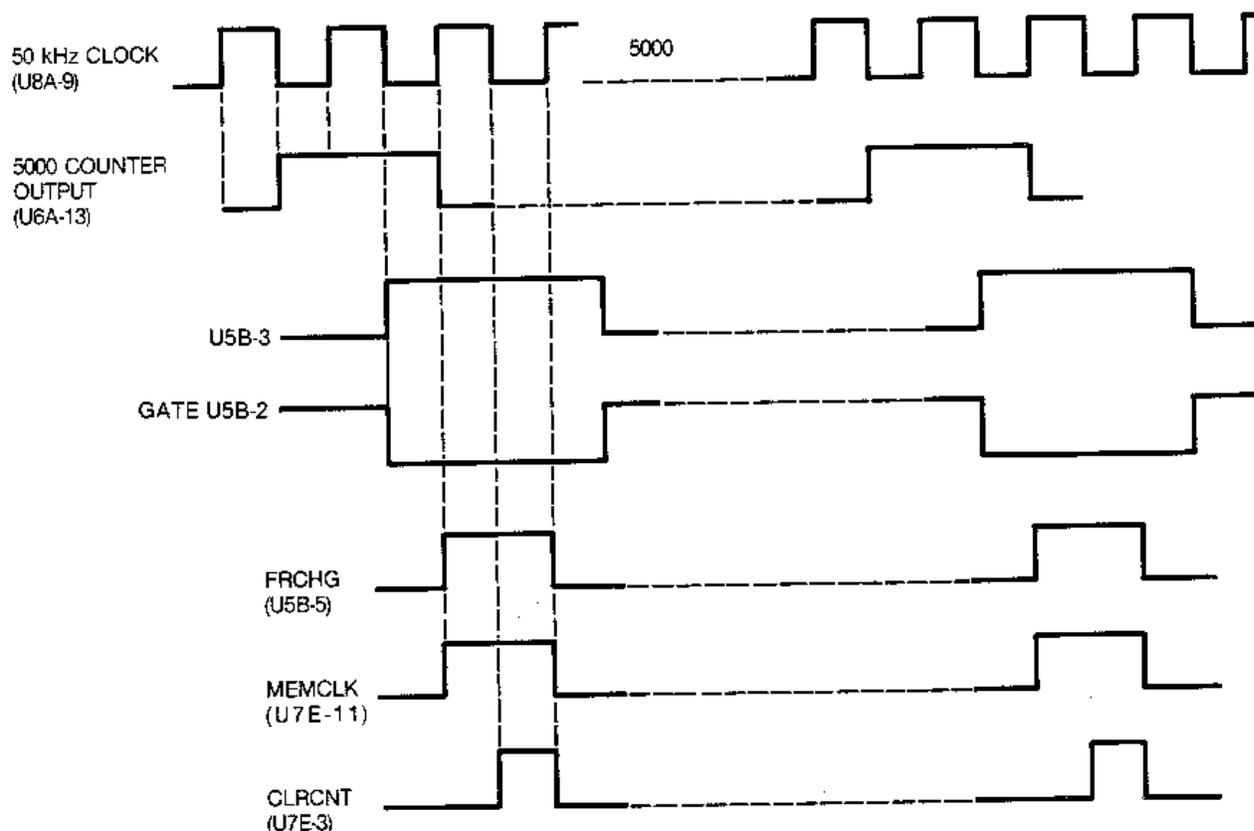

Figure 4-5. Timing Generation
Four divide-by-10 counters (U5A, U6A) together with their control devices, produce the GATE, MEMCLK, FRCHG, and CLRCNT pulses which control the frequency comparator circuit. Figure 4-5 shows the timing diagram for the counters.
line goes low, which inhibits the control flip flop. Approximately  $20\ \mu\text{s}$  after the GATE line inhibits the flip flop, the CLRNT line clears the flip flop and counter, and when the GATE line returns high, the frequency counter again counts the frequency. For GATE and CLRNT timing relationships, see figure 4-5.
every 100 ms, see figure 4-5 for timing relationships. When the stabilizer is enabled, the MEMCLK line remains low holding the frequency data (displayed frequency) stored in the latches.
**8-Bit Up/Down Counter:** The 8-bit up/down counter (U9F, U8F), controlled by two lines from the frequency comparator, uses its output to increment or decrement the DAC. Table 4-4 illustrates how the comparator controls the up/down counter. The counter preloads (1000 0000) for stabilizer to the center of the counter's range; for sweep modes it load to the bottom of the counter's range. If the stabilizer is on, the FRCHG pulse clocks the counter every 100 ms; see figure 4-5. In sweep modes FRCHG rate varies depending on the sweep time. When the stabilizer is turned on, the STAB line from the misc control logic goes high to enable the counter. For stabilizer off, the STAB line goes low and on the next FRCHG clock transition the outputs all go to a TTL low, except the most significant bit which is held high. The eight data lines from the counter directly drive the inputs of the frequency correction DAC.